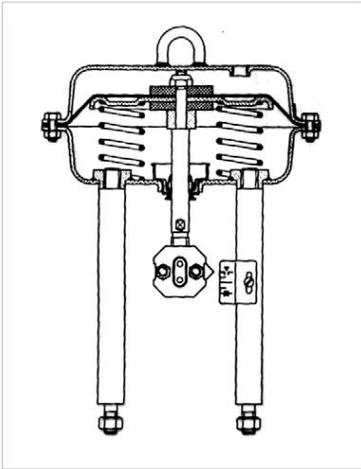

Figure 3: Direct acting actuator
4. On direct acting actuator (Figure 3) apply sufficient air pressure to the actuator to fully stroke the actuator to nominal stroke plus 5%.